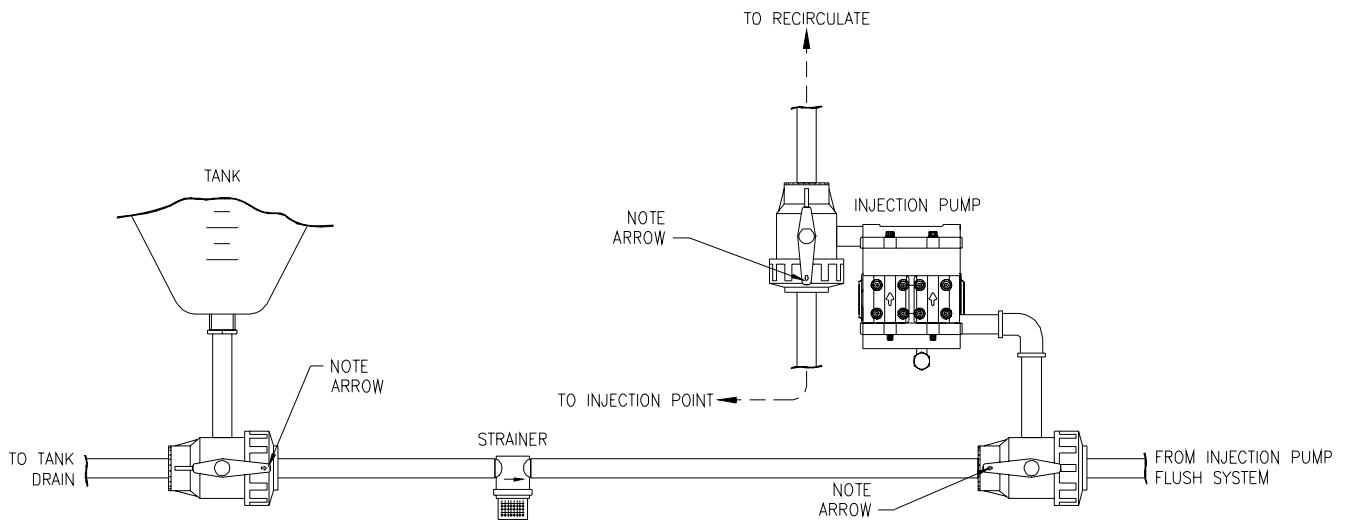

FIGURE 10C
6) Figure 10C illustrates typical injection module plumbing, showing the three way valve handle positions for injecting chemical.